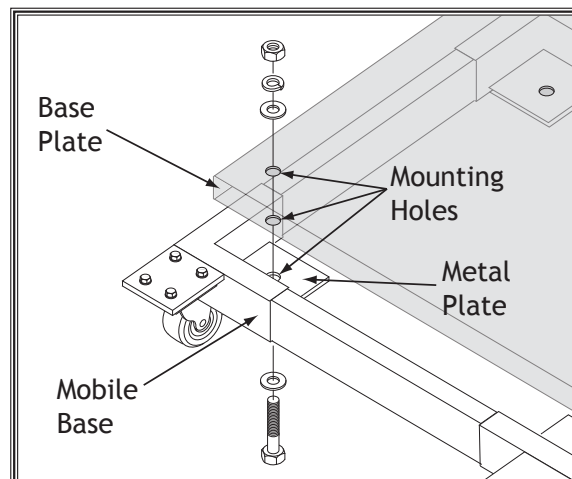

Figure 10. Mounting base plate to mobile base.
6. Secure base plate to mobile base with hex bolts, hex nuts, flat washers and lock washers, as shown in Figure 10.